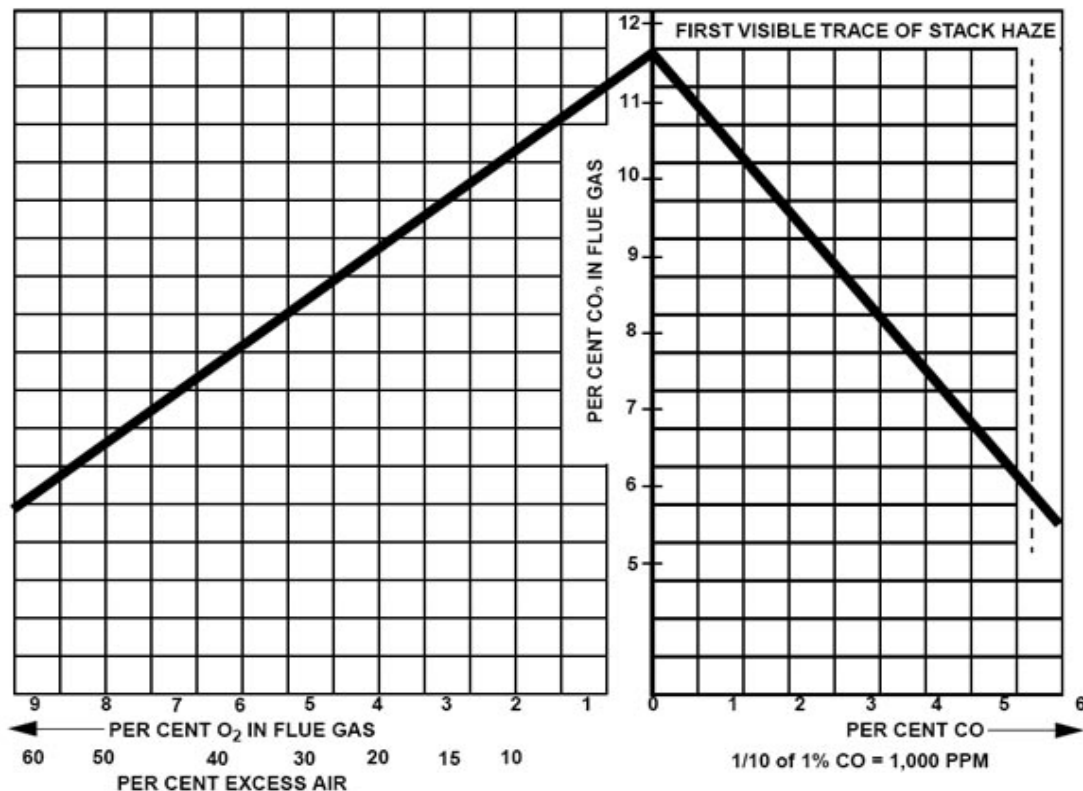

FIGURE 5-5. Flue Gas Analysis Chart for Natural Gas
Burner efficiency is measured by the amount or percentage of CO2 present in the flue gas. The theoretical maximum CO2 percentage for natural gas is approximately 11.7%. As shown in Figure 5-5, this is attained when there is no excess oxygen (O2) or carbon monoxide (CO). A definite percentage of excess air (oxygen) is required by most local authorities and the burner should never be operated with an air-fuel ratio that indicates a detectable percentage of carbon monoxide.